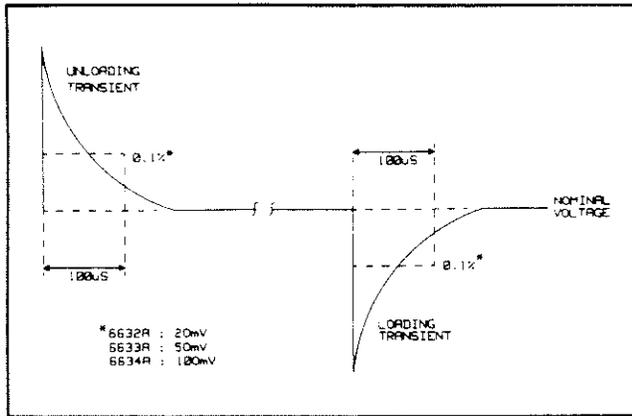

Figure 3-8. Transient Response Waveform
- g. Adjust the oscilloscope trigger level for a stationary waveform as shown in Figure 3-8 and check that the loading transient is within 0.1% (20 mV for HP 6632A, 50 mV for HP 6633A, or 100 mV for HP 6634A) of its final value in less than the time specified in Table 3-2, TRANSIENT RECOVERY TO 0.1%.
- h. Change the oscilloscope settings to + slope and repeat steps f and g for the unloading transient (see Figure 3-8).